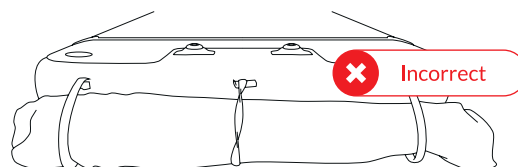

Fig 85 – Do not twist Air Toggle loop
2. Ensure all the Air Toggle loops are flat and not twisted. (Fig 85)